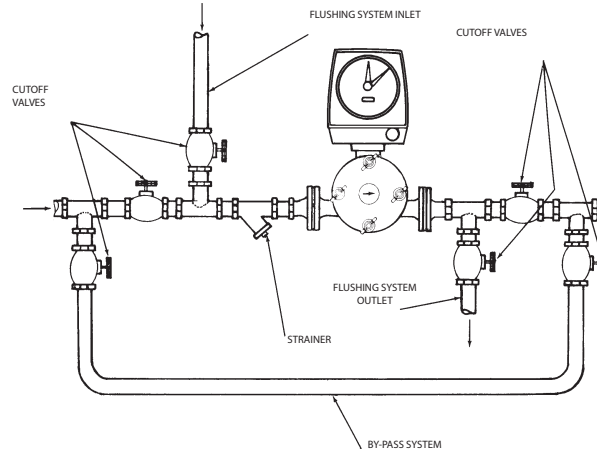

Figure 2: Installation Configuration
5. In metering applications involving abrasive materials, slurries, or liquids that may leave a residue or buildup of deposits, a meter by-pass and flushing system should be incorporated into the facility piping installation to permit periodic clean-out of the meter. Figure 2 illustrates a typical meter installation incorporating a bypass and flushing system.
NOTE: Always install meter in such a way that round cover is on a vertical plane, as shown on "Figure 2".
If the facility piping arrangement includes a meter bypass and flushing system (see "Figure 2"), shut off fluid flow to the meter and flush interior of meter housing with clean water to remove any buildup of deposits or corrosion. If a bypass and flushing system is not included in the metering application, remove the meter housing cover and inspect the measuring chamber, piston and associated parts for any buildup of deposits or corrosion. Clean and flush parts with water or a suitable solvent that will not adversely affect the plastic components.